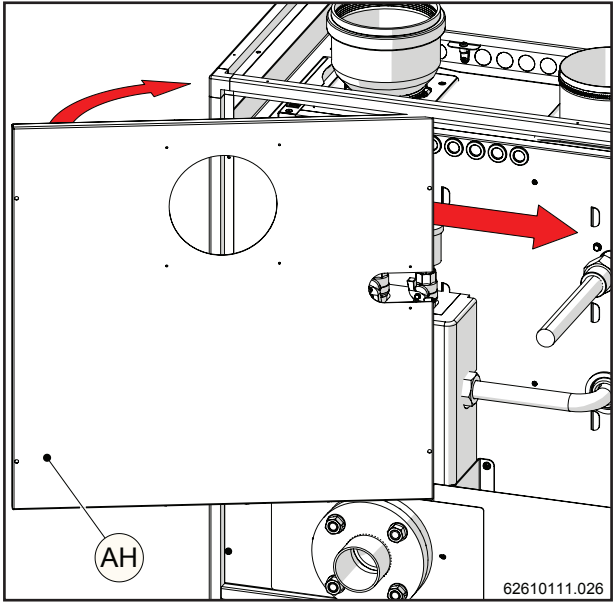
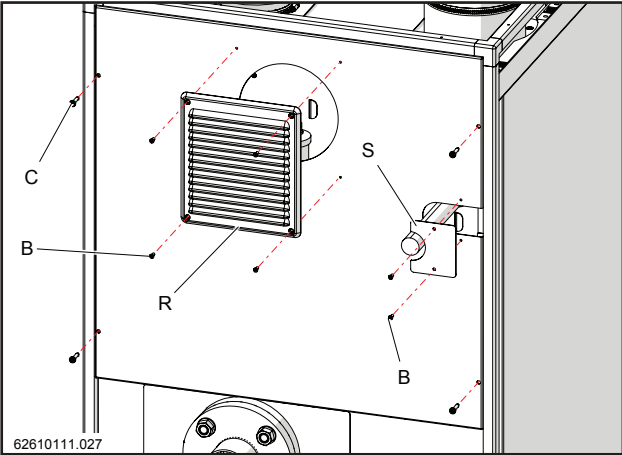
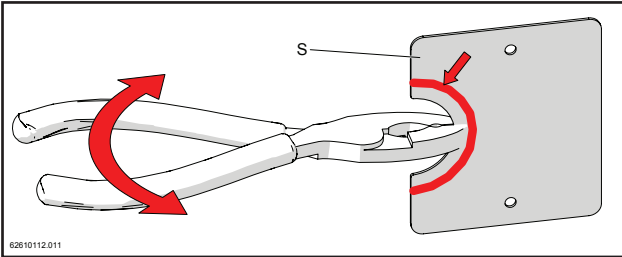

Figure 15-59
Figure 15-60
Figure 15-61
- 13.- Put on the cover (AH) in the direction shown in figure 15-59 and fasten it to the structure with screws "C" (figure 15-60). Then attach anti-rain grill "R" and metal sheet "S" (removing the pre-cut section, as shown in figure 15-61); attaching both with screws "B" (figure 15-60).